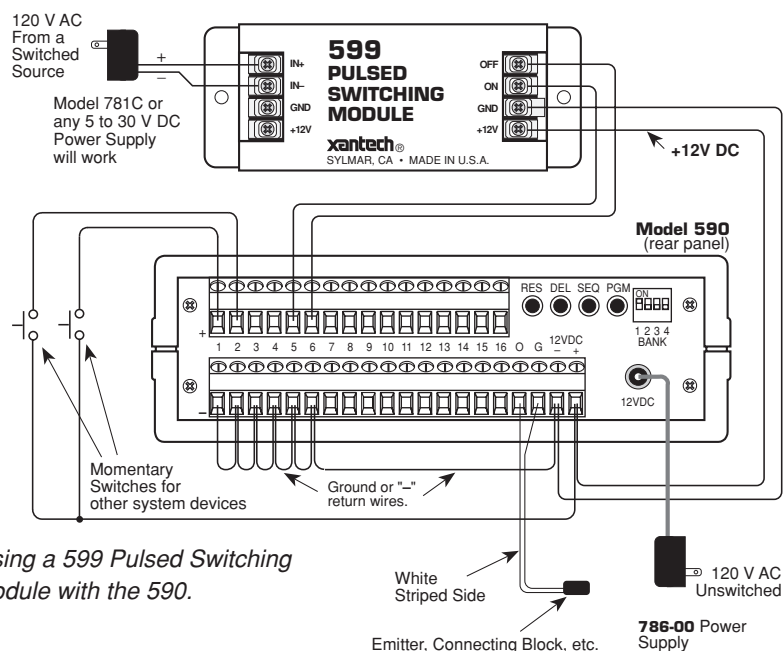

Fig. 2 Using a 599 Pulsed Switching Module with the 590.
- This can be done by using the Model 599 Pulsed Switching Module, connected as shown in **Fig. 2**.
- This short pulse operation also permits momentary switches to be connected to other inputs on the 590 (such as inputs 1 and 2, as in **Fig. 2**). This allows additional system commands, other than those activated by the 599, to be executed uninhibited.